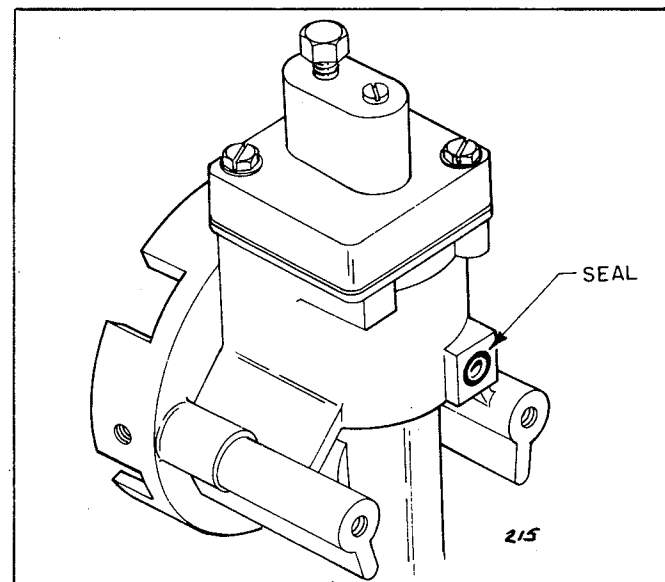

Figure 12. Burner Seal Installation
a. Be sure the seal is in place in its recess in the rear of the burner head casting. (See Figure 12.)